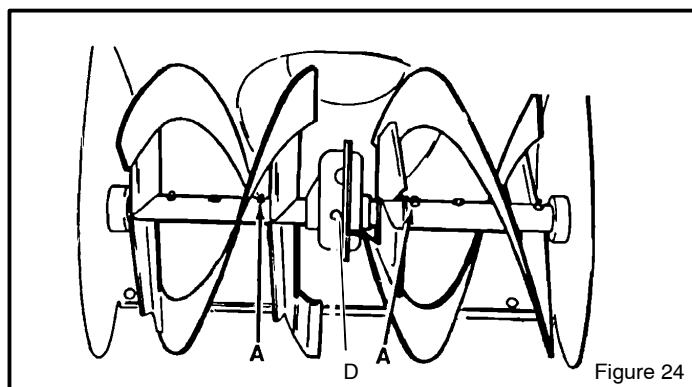
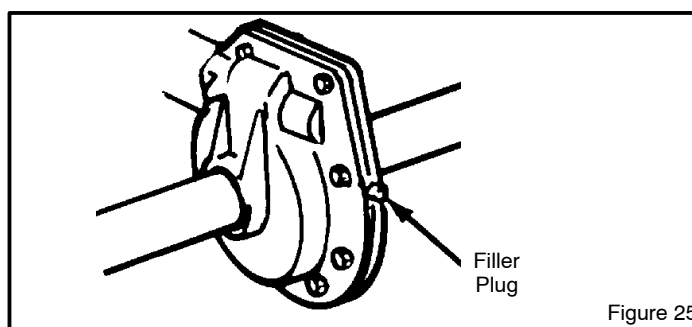

Figure 24
Figure 25
Remove filler plug D (Figure 24 and Figure 25), once a year. If grease is visible, do not add. If grease is not visible, use a piece of fine wire, like a dipstick to check if there is grease in the gear box. Mobilux EP1 and Shell Aldania EP1 are suitable equivalents.
1. **Auger Shaft** – Using a hand grease gun, lubricate the auger shaft zerk fittings (A) every ten (10) operating hours. Each time a shear bolt is replaced, the auger shaft **MUST** be greased (Figure 24). (See To Replace Auger Shear Bolt in the MAINTENANCE section).